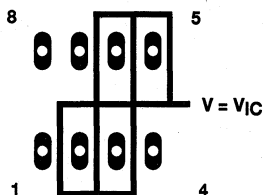
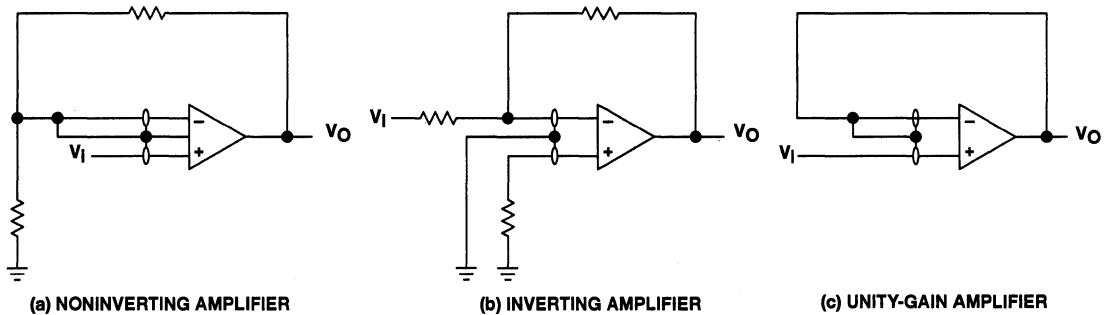

Figure 33. Isolation Metal Around Device Inputs
Figure 37. Guard-Ring Schemes
- Isolate the device from other potential leakage sources. Use a grounded shield around and between the device inputs (see Figure 33). Leakages that would otherwise flow to the inputs are shunted away.
Because of the extremely high input impedance and resulting low bias-current requirements, the TLV2322 is well suited for low-level signal processing; however, leakage currents on printed-circuit boards and sockets can easily exceed bias-current requirements and cause a degradation in device performance. It is good practice to include guard rings around inputs (similar to those of Figure 33 in the Parameter Measurement Information section). These guards should be driven from a low-impedance source at the same voltage level as the common-mode input (see Figure 37).